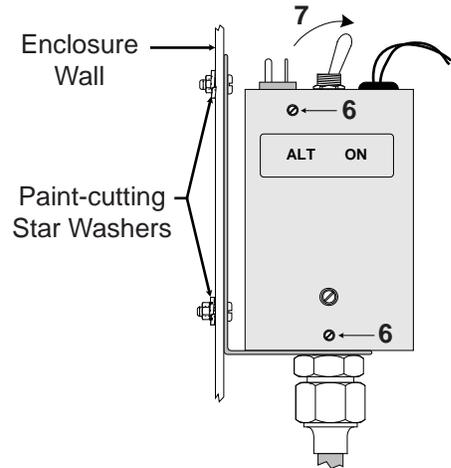

Fig. 3-3, Cover Replaced, SPI Switched On
- a. If the SPI has been installed with a mounting bracket, ground connection is made with paint-cutting star washers (Fig. 3-3) used in conjunction with SPI grounding wire.